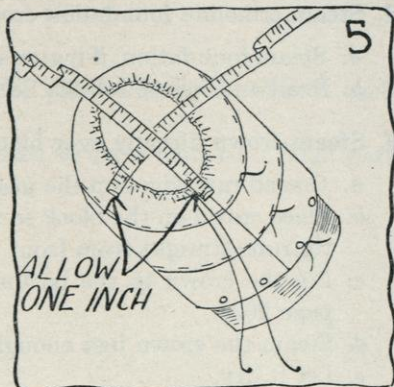

FIG. 5.
- (1) Measure from front to back and allow 1 inch more for slipping raw edges under the top row of ribbon (see Figure 5). Jot down this measurement.
- (2) Measure from side to side and allow 1 inch more (see Figure 5); divide that measurement by the width of your ribbon to see how many widths of ribbon you will need to cover that space. Jot down the result.